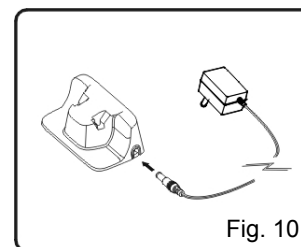

Fig. 10
- 1b. Connect the charger plug on the charging jack of charging stand (Fig. 10). Plug the charging adapter into the wall outlet(120V., 60Hz). Use only Techworld Charger AD-0920-UL, rated output DC 9V, 200mA, place the unit in the charging stand. (Fig. 11)